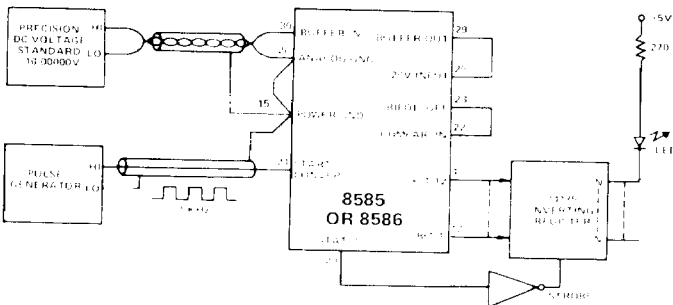

FIGURE 6. CIRCUIT FOR TESTING ACCURACY
The arrangement shown in Figure 6 may be used to measure the bit transitions. Offset trim, gain trim, and other standard connections are not shown. Shielded twisted pair cable is used to connect the Precision Voltage Standard, and each of the twelve bits requires its own LED indicator. The inverting register is used to increase the duty cycle of the LSB bits since they are held at logic "1" during most of the timing cycle as indicated in the timing diagram. The NOT outputs (N) from the register are used so that a lighted LED will represent logic "1". Readings should be taken with the converter energized, in thermal equilibrium at 25°C, and after a warm-up time of 5 minutes. The Pulse Generator can be set at any frequency up to the maximum allowed for the converter. The power supply voltages should be at their nominal values.